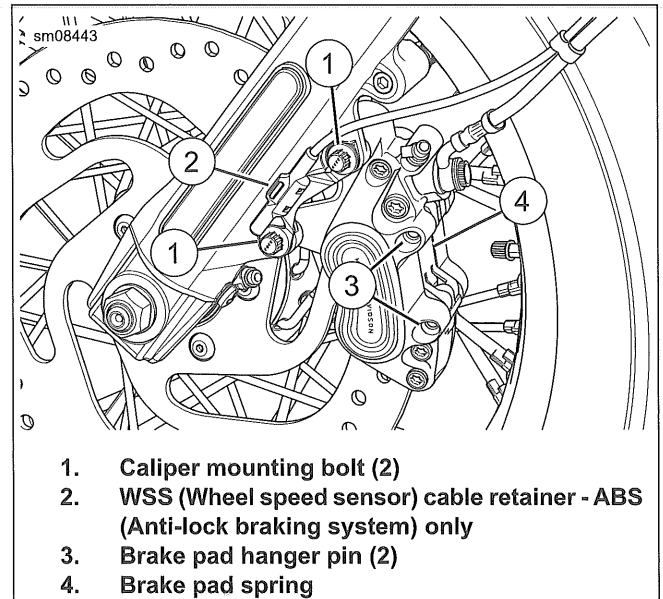

Figure 2-18. Front Brake Caliper
2. See Figure 2-18. Remove brake pad hanger pins (3).
See Figure 2-18. Brake pad spring (4) must be installed with the stamped arrow facing up.
2. Loosely install **new** brake pad hanger pins (3) and **new** brake pad spring (4).